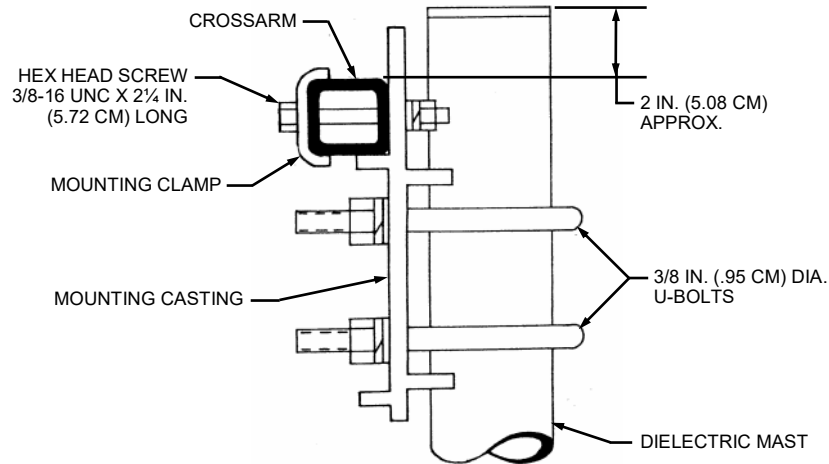

FIGURE 4
1. To ground the antenna attach a ground wire under the head of the 3/8-16 x 2 1/4 in. long hex head screw at the mounting casting (see Figure 4). Run the ground wire down the mast to a ground rod driven at least 4 feet into the ground. If it is preferred to run the ground wire inside the mast, drill a hole through the mast cap. Run the ground wire through the hole and weatherproof with RTV or equivalent compound.
- Assemble the mounting casting to the dipole-fitting side of the crossarm as shown in Figure 4, using the mounting clamp and the 3/8-16 x 2 1/4" long hex head screws.